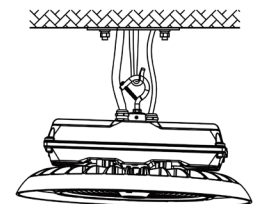

Fig. 2
2. Hang the fixture on the ceiling hook or chain. After installation, connect the wire of the fixture to the mains according to the local wiring rules. (Fig. 2)